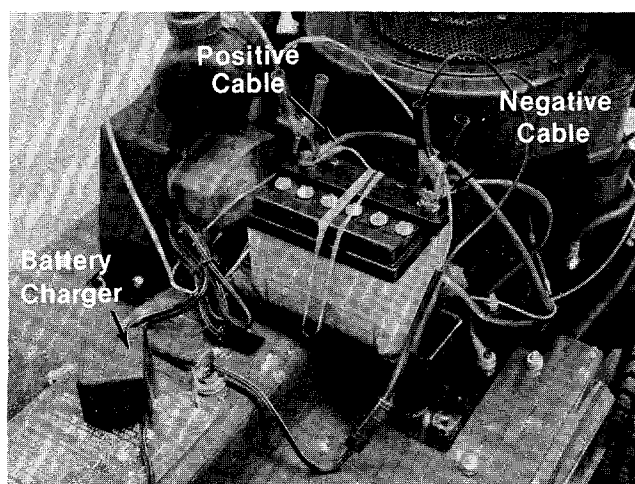

FIGURE 17.
14. The battery can be SLOW CHARGED (DO NOT FAST CHARGE) at a maximum bench rate of 1.4 amperes until the specific gravity reading is 1.260-1.280. Charge for a minimum of 2 hours and a maximum of 8 hours. See figure 17.